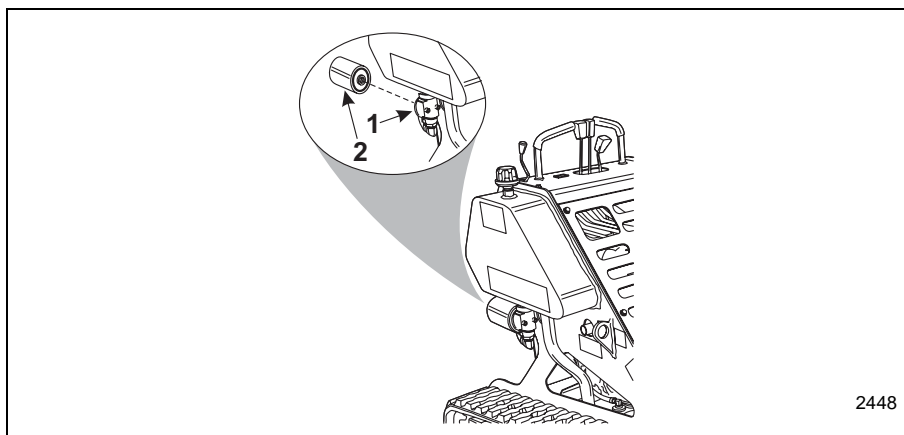

Figure 4-9 Hydraulic Oil Filter
3. Change the hydraulic filter. See Service Manual and **Figure 4-9**.
- a. Remove the hydraulic filter (Item 2, **Figure 4-9**) from the filter mount (Item 1, **Figure 4-9**) underneath the hydraulic tank.